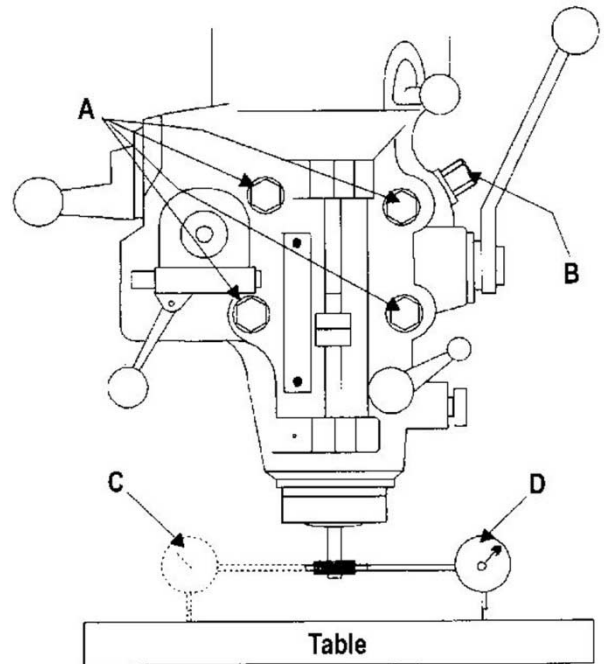

Figure 22
5. Set up a dial indicator in a collet and secure using the draw bar (refer to Figure 22).
- c. Set up a dial indicator in a collet and secure using the draw bar (refer to Figure 22).